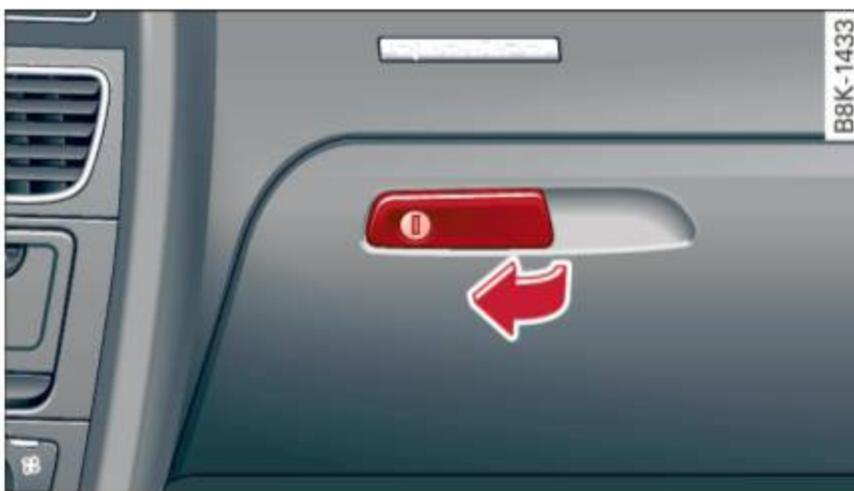

Fig. 65 Glove compartment
- ▶ To open the glove compartment, pull the handle in the direction of the arrow ⇒ *fig. 65* and swing the cover down to open.